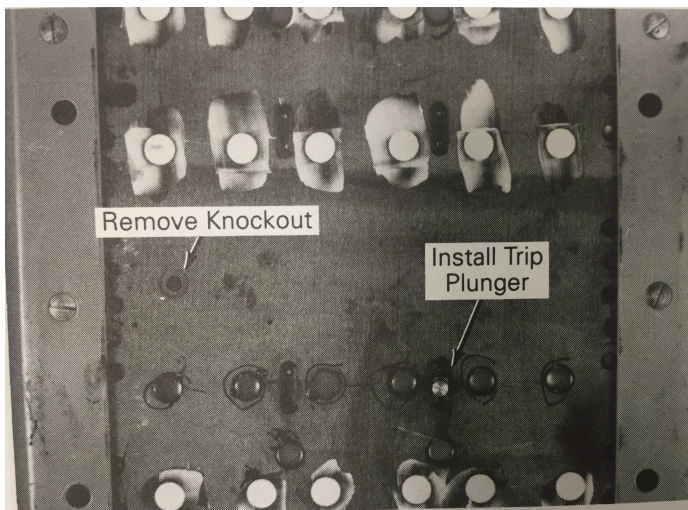

Figure 3. Trip plunger installed in the rear of the breaker.
2. Remove the knockout on the rear of the breaker, as shown in Figure 3. Be sure to clean the edges of the hole, so that the interlock plunger can move freely in and out.